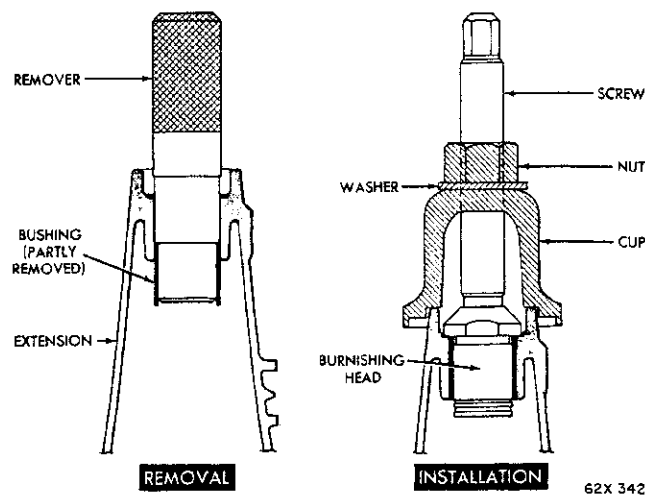

Fig. 81—Installing Extension Housing Bushing—TorqueFlite Six
- (1) Drive out the bushing with Tool C-3755 (Fig. 81).
- (2) Slide a new bushing over the ground end of Tool C-3751, then drive the bushing into the housing with the tool (Fig. 81). Make sure the oil hole of the bushing aligns with the slot in the housing.
- (3) While holding the screw from turning, tighten the tool nut to draw the burnisher through the bushing.